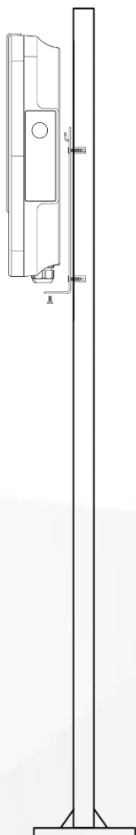

Fig.8
- b. Use mounting bracket and pillar to mark out the mounting position, as shown in Fig.8